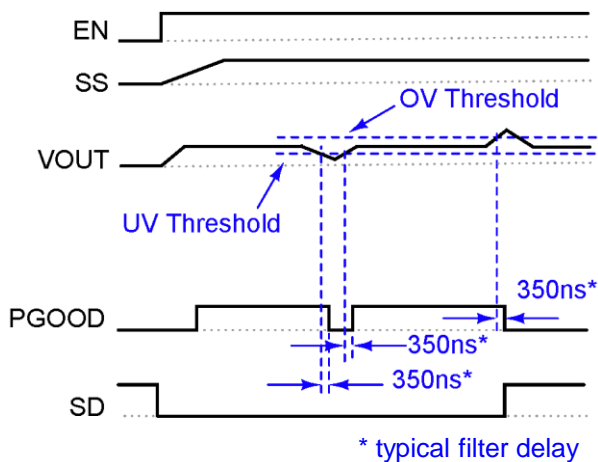

Figure 21. Under/Over Voltage Monitor
The IR3863 monitors the voltage at the FB node through a 350ns filter. If the FB voltage is below the under voltage threshold, UV# is set to LOW holding PGOOD to be LOW. If the FB voltage is above the over voltage threshold, OV# is set to LOW, the shutdown signal (SD) is set to HIGH, MOSFET gates are turned off, and PGOOD signal is pulled low. Toggling VCC or EN will allow the next start up. Figure 21 and 22 show PGOOD status change when UV/OV is detected. The over voltage and under voltage thresholds can be found in the *Electrical Specification* section.